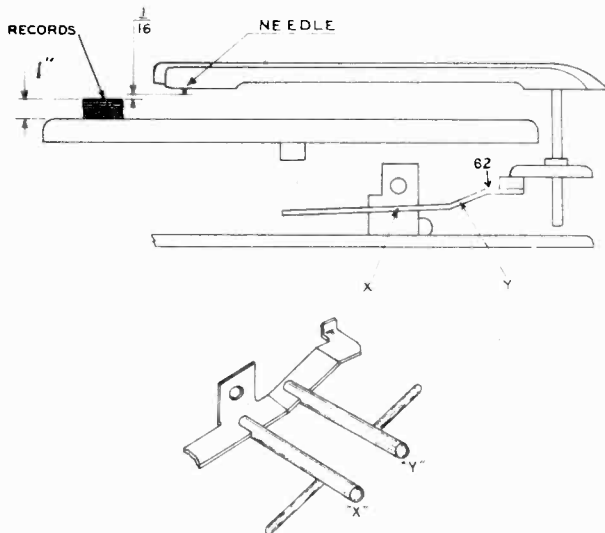

Fig. 3
The vertical movement of the pickup arm is controlled by the angle of the pickup arm raising lever (62 and Fig. 3). The needle should approach the top record of a full 1" stack of records on the turntable with approximately  $\frac{1}{16}$ " clearance.
4. If the needle does not clear the top record or if it raises too high, adjust by holding the pickup arm raising lever (62) at point X and bending at Y as indicated in Fig. 3.